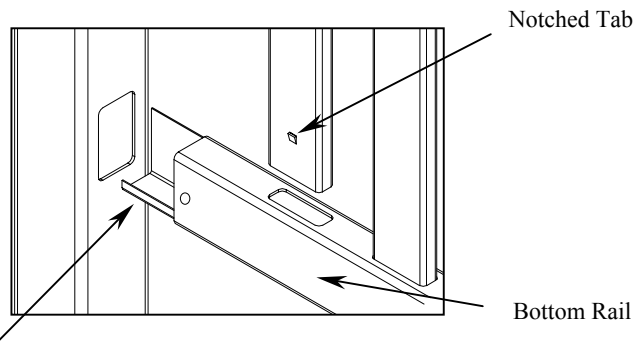

Fig 3
3) (Fig. 3) Insert the reinforcement rail into the bottom rail. Insert rail locks into rail lock holes. Install bottom rail into posts.